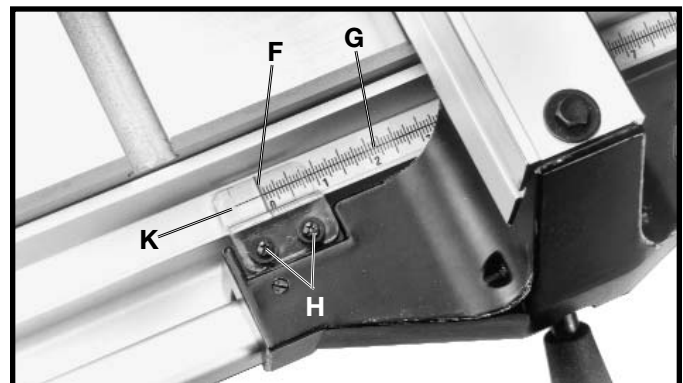

Fig. 49
7. The cursor witness line (F) Fig. 49, should line up with the “zero” mark on scale (G). If the witness line does not line up with the “zero” line on the scale, loosen two screws (H) and adjust cursor (K).